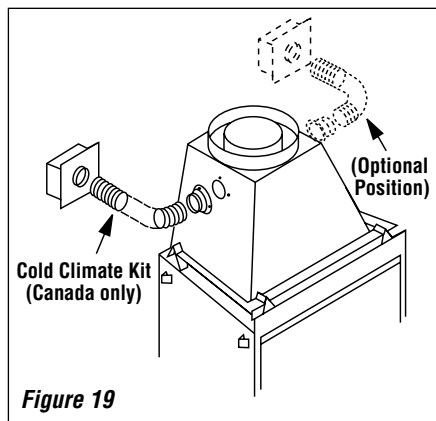

Figure 19
Step 6. Remove one of the knockouts from the fireplace transition and attach the 4" (102 mm) collar from the Cold Climate Kit to the transition with four (4) No. 8 x 1/2" screws provided (**Figure 19, below**). See "Installation Components" on **page 24** for catalog/part numbers.